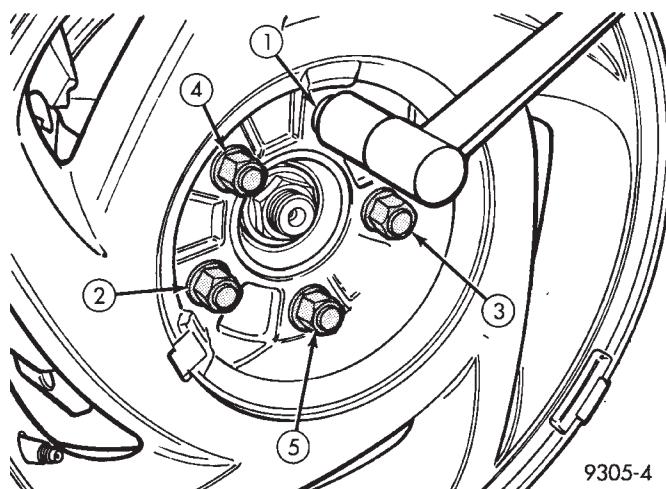

Fig. 4 Tightening Wheel Nuts
(3) Torque both lateral link attaching bolts to 140 N•m (105 ft. lbs.).
(4) Install wheel and tire assembly on vehicle. Tighten the wheel mounting stud nuts in proper sequence (Fig. 4) until all nuts are torqued to half specification. Then repeat the tightening sequence to the full specified torque of 129 N•m (95 ft. lbs.).